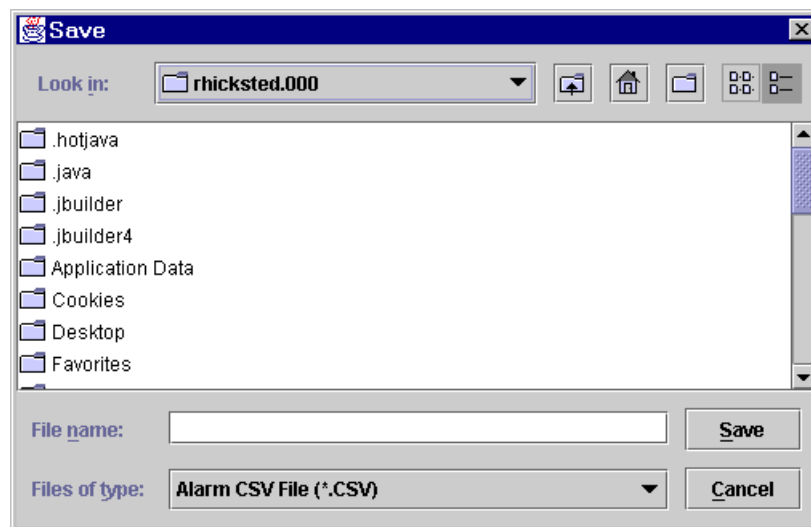

Figure 8-8. Export Alarm Log—File Name and Location
2. You are prompted to select a location and a file name (see figure 8-8). After selecting a location from the **Look in** list, type a file name in the **File name** box, then click **Save**.